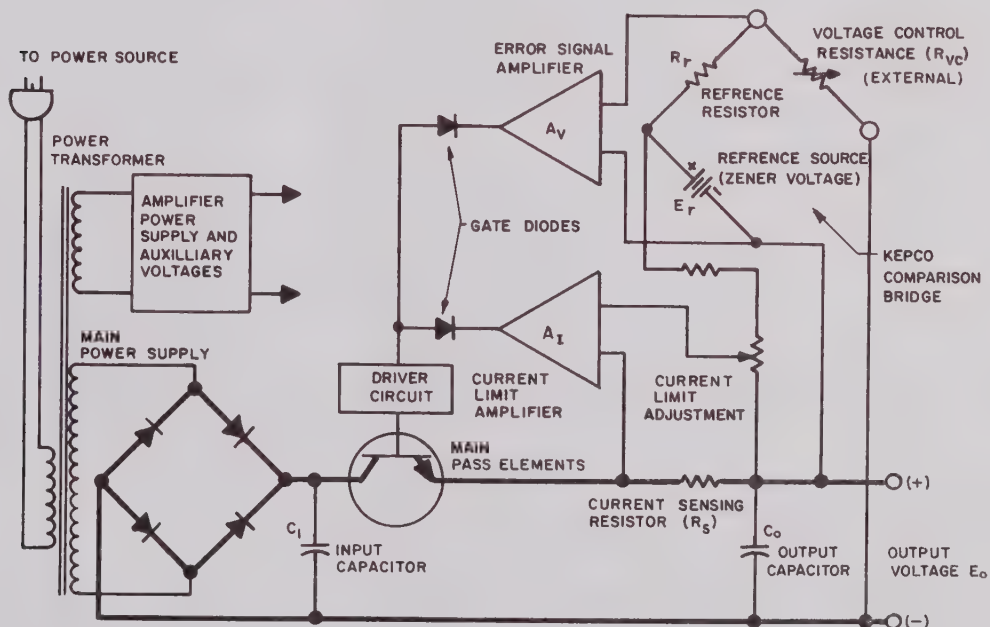

FIG. 4-1 SIMPLIFIED DIAGRAM, PAT POWER SUPPLIES.
(References in CAPITAL LETTERS refer to the nomenclature used in FIG. 4-1.)
4-1 SIMPLIFIED DIAGRAM DISCUSSION. (Refer to FIG. 4-1.)
- A-C INPUT CIRCUIT. A-C input power is introduced through rear barrier-strip TB1, terminals (1) and (2). Terminal (3) is connected to the chassis and should always be returned to a-c ground. The fuse (F1) protects the primary of the power transformer (T201) from excessive current. T201 has two primary windings which are connected either in parallel (for 115V a-c service) or in series (for 230V a-c service).
- e) **THE COMPARISON BRIDGE.** This 4-arm electrical bridge circuit is the regulating and controlling element in many Kepco Power Supplies. In the PAT models it consists of the reference voltage E_r (CR8), the reference resistor R_r (R15 and the optional bridge current adjustment rheostat R16), the voltage control resistance R_{VC} [either the optional internal control R13 or the resistor externally applied between terminals (11)–(12) on TB1], and the output voltage E_o . As shown in FIG. 4-1, the internal reference voltage E_r in series with the reference resistance R_r is continuously compared with the output voltage E_o in series with the voltage control resistance R_{VC} . At balance ($E_{AA'} = 0$), a constant bridge current I_b flows through the bridge, keeping the error signal at bridge terminals A–A' at approximately zero volts. Any deviation in E_o caused by a-c source, load variations, or other influences will tend to change I_b in the bridge circuit and thereby produce an error signal at the bridge terminals A–A'. This error signal is then amplified by the error signal amplifier A_V and acts as a control signal for the series regulator or pass element changing the voltage drop across it in such a way as to restore the previous output voltage level.